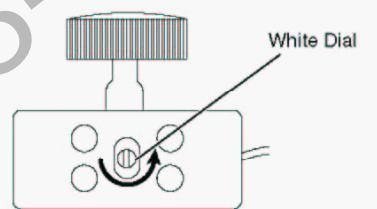

**Figure 38 -
10. Turn blowers with discharge vent facing up. Slide the discharge vent so that it is facing up. Slip discharge vent flange under the flange bracket flush against the sidewall. Slide blower side tabs over into side flange. *Figure 38*. The blower is now locked in place.